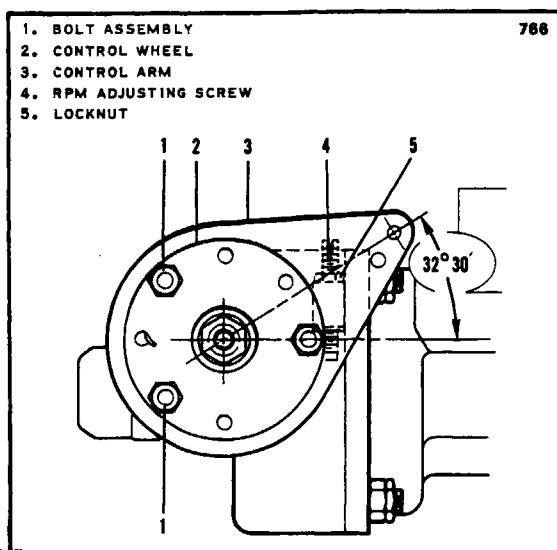

Figure 8A-4. Propeller Governor
8A-24. RIGGING AND ADJUSTMENT OF PROPELLER GOVERNOR. (Refer to Figure 8A-4.)
5. Ascertain that the governor control arm (3) is adjusted to the proper angle on the control wheel (2) as shown in Figure 8A-4.